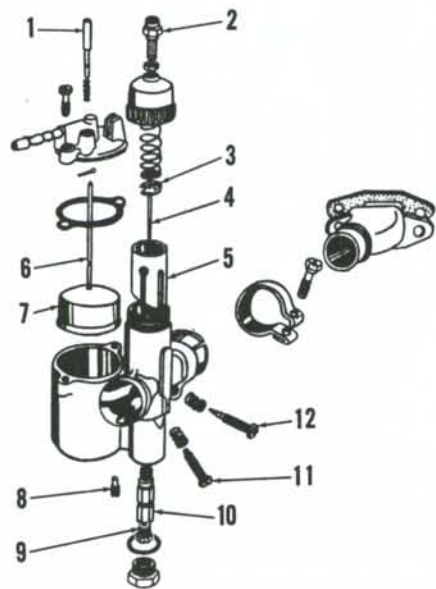

Fig. A2-1—Exploded view of Fisher-Amal carburetor.
CARBURETOR. Fisher-Amal 19EIK carburetor is shown in Fig. A2-1. Main jet (9) standard size is 90. Needle valve clip (3) should be in-